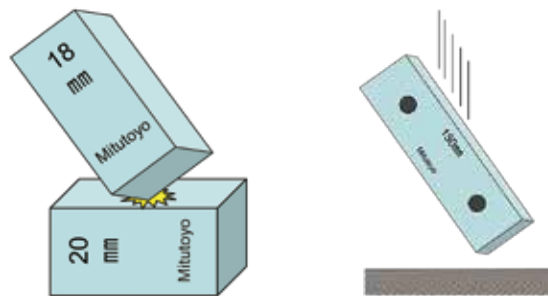

Fig. 1
1. Handle gauge blocks with great care to avoid damage to the measuring surfaces due to impact with each other or by being dropped (**Fig. 1**). Damage, such as burrs, will adversely affect the accuracy of any measurements made.